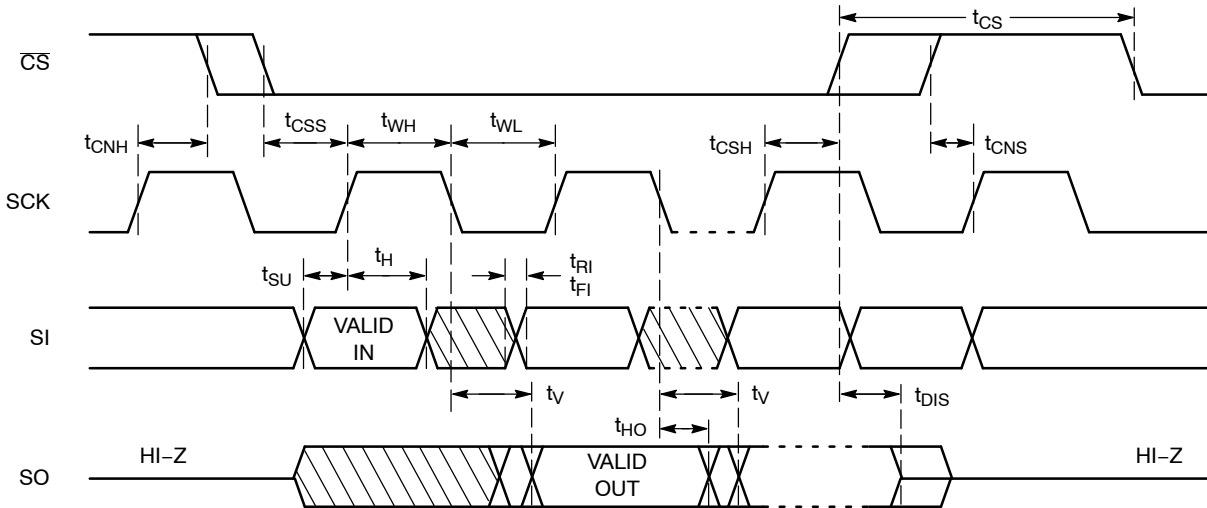

Figure 2. Synchronous Data Timing
7. **All Chip Select (CS) timing parameters are defined relative to the positive clock edge (Figure 2). t_{CSH} timing specification is valid for die revision C and higher. The die revision C is identified by letter "C" or a dedicated marking code on top of the package. For previous product revision (Rev. B) the t_{CSH} is defined relative to the negative clock edge (please refer to data sheet Doc. No. MD-1122 Rev. C).**
After a high to low transition on the \overline{CS} input pin, the CAT25080/160 will accept any one of the six instruction op-codes listed in Table 7 and will ignore all other possible 8-bit combinations. The communication protocol follows the timing from Figure 2.